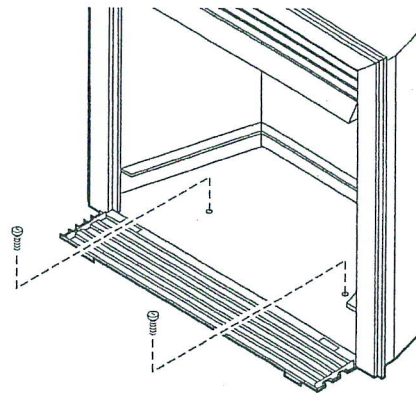

Figure 7. Securing Heater to Floor or Hearth
- Secure the firebox with two anchoring screws (3/16" x 1 1/4" length) supplied with the fireplace system. Refer to *Figure 7*.